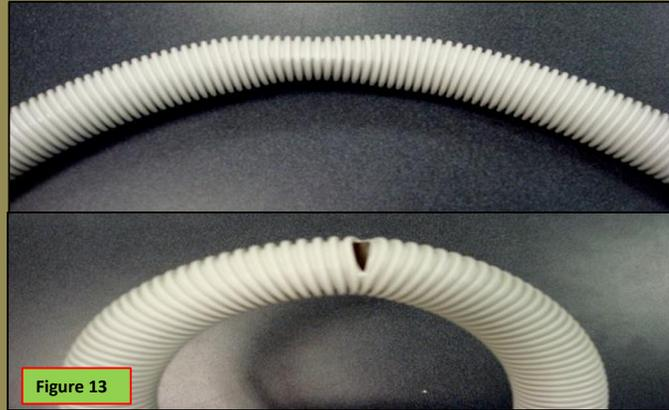

Figure 13
2. Check the drain hose for cuts and kinks and replace if found; see Figure 13.